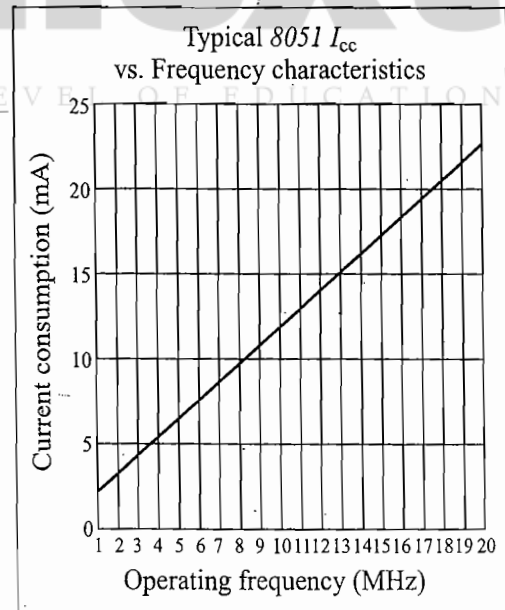

Fig. 5.39 Typical Power consumption curve for generic 8051
5.3.11.3 Power Consumption V/s Oscillator Frequency Average Power consumption is directly proportional to the operating frequency (Clock frequency). Increasing the clock frequency (subject to the condition that it will not exceed the maximum supported frequency by the system core) increases the execution speed of the controller. But it also has a direct impact on the total power consumption. Figure 5.39 illustrates the typical power curve for a generic 8051 microcontroller.